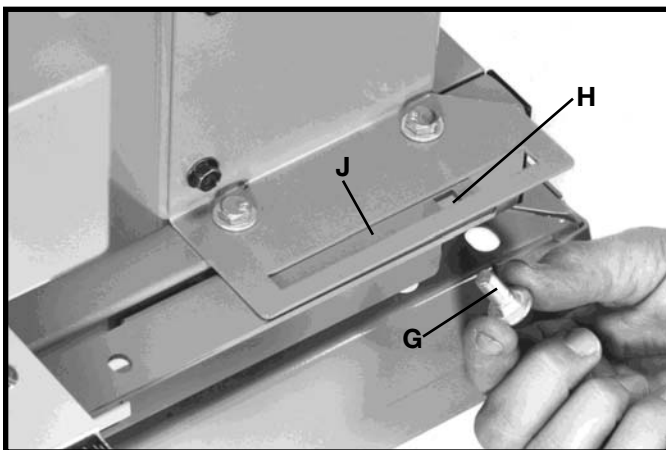
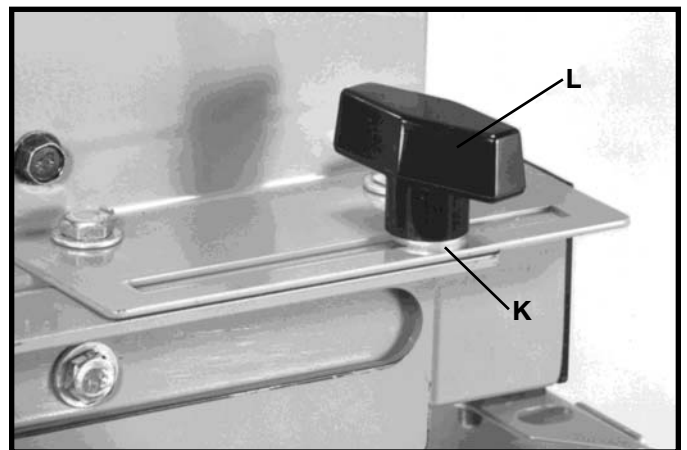

Fig. 12
Fig. 13
7. Insert the 5/16-18x3/4" carriage bolt (G) Fig. 12, up through square hole (H) and slot (J) as shown, and fasten in place using the 5/16" flat washer (K) Fig. 13 and lock knob (L). **NOTE: DO NOT TIGHTEN HARDWARE AT THIS TIME.**